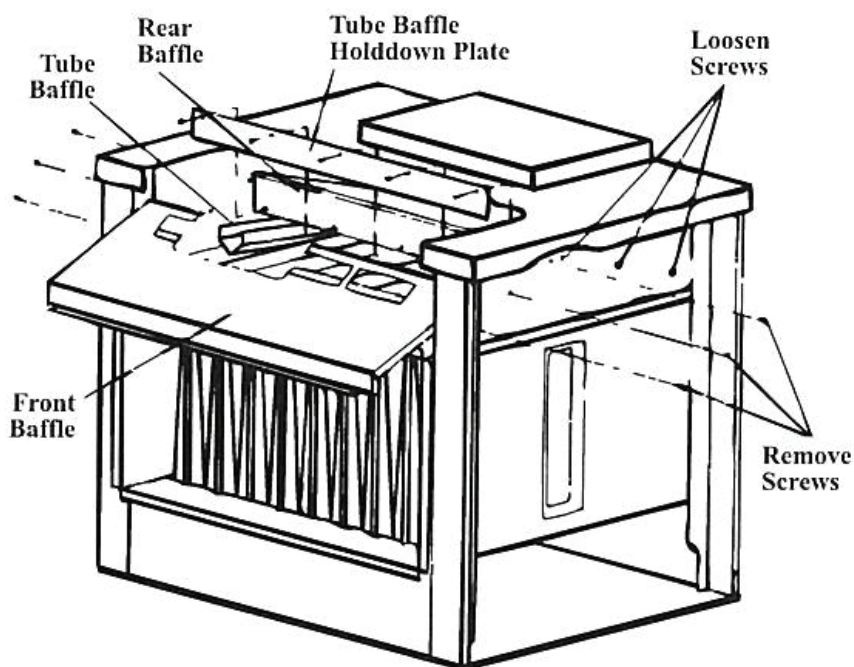

Figure 22. Heat Exchanger V-Shaped Baffles
2. Remove V-shaped baffles from gravity-vented models (see Figure 22) as follows: